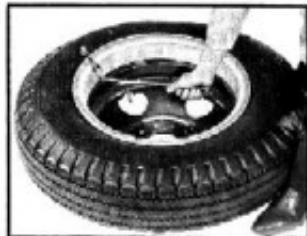
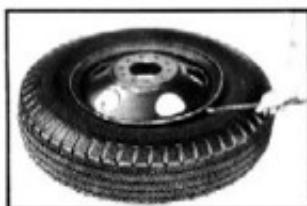

Fig. 74
Fig. 75
3. Insert straight end of tire iron into operating notch located at double pimples "B" (fig. 74).
5. To free opposite tire bead from wheel rim, turn tire over and repeat mead loosening operation (fig. 75).
NOTE: It is not necessary to remove side ring from tire bead if tire is to be removed for tube repair only. Simply loosen tire bead from wheel rim as in figure 75. Then turn assembly over and remove ring with tire attached as in figure 74.